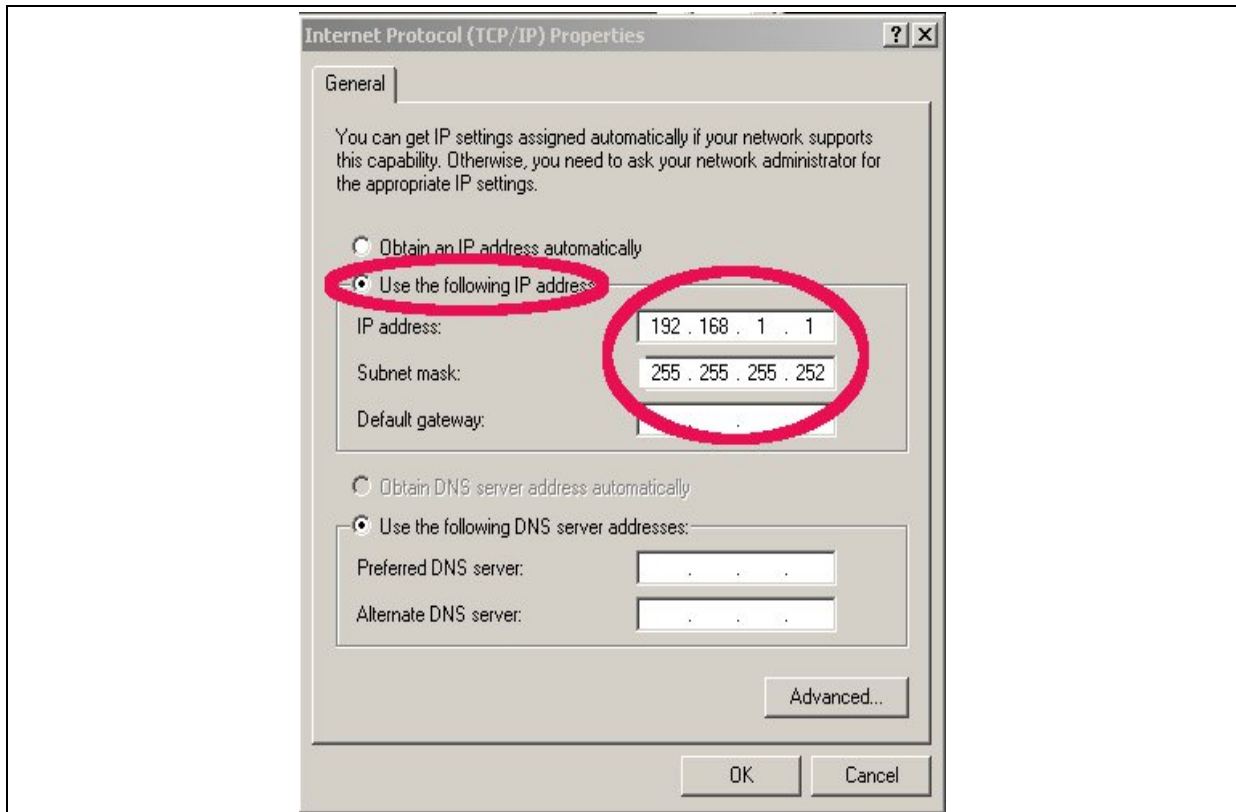

Figure 12. Set the static Network IP and press OK.
- The given example IP number at Figure 12 is for a simplified test and debug setup, see **Error! Reference source not found.**, where the octave or java client runs on the Win PC that also carries all necessary Win drivers and is connected to the DUT. The ecm200 driver runs in a subnet that is only visible from this PC.